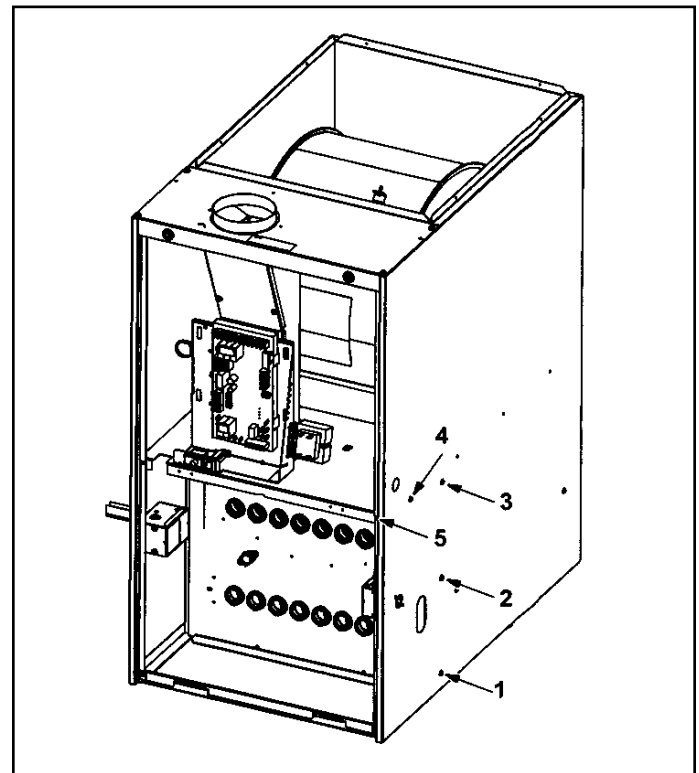

Figure 30. Remove 5 Screws if Necessary
10. Remove heat exchanger. It may be necessary to spread cabinet side to allow more room. If so, remove five screws from the left side or right side of cabinet. See Figure 30.